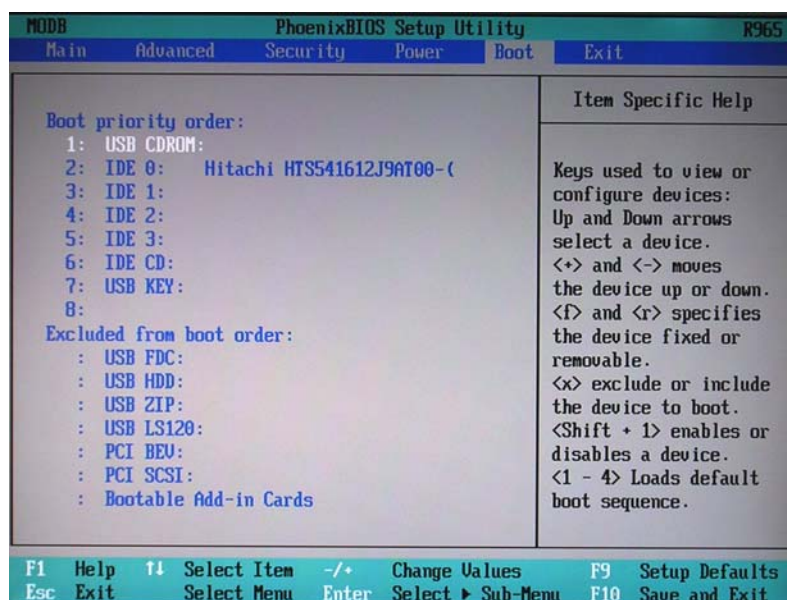

Figure 8-68 BIOS Boot Parameters
Boot	Figure 8-68 on page 8-77
- 9.) Set the parameters in the **Boot** parameters screen as shown above in Figure 8-68.